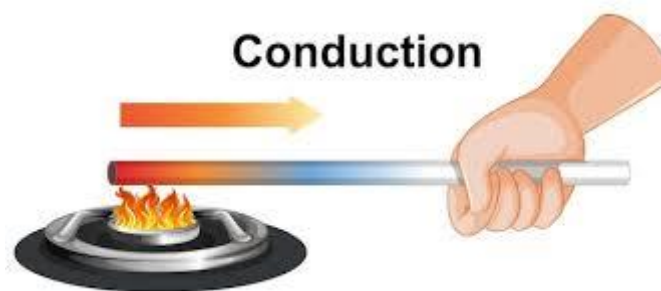

Figure 18. Conduction transport
- **Description:** Heat transfer through a solid material or stationary fluid due to temperature differences within the material (Figure 18).